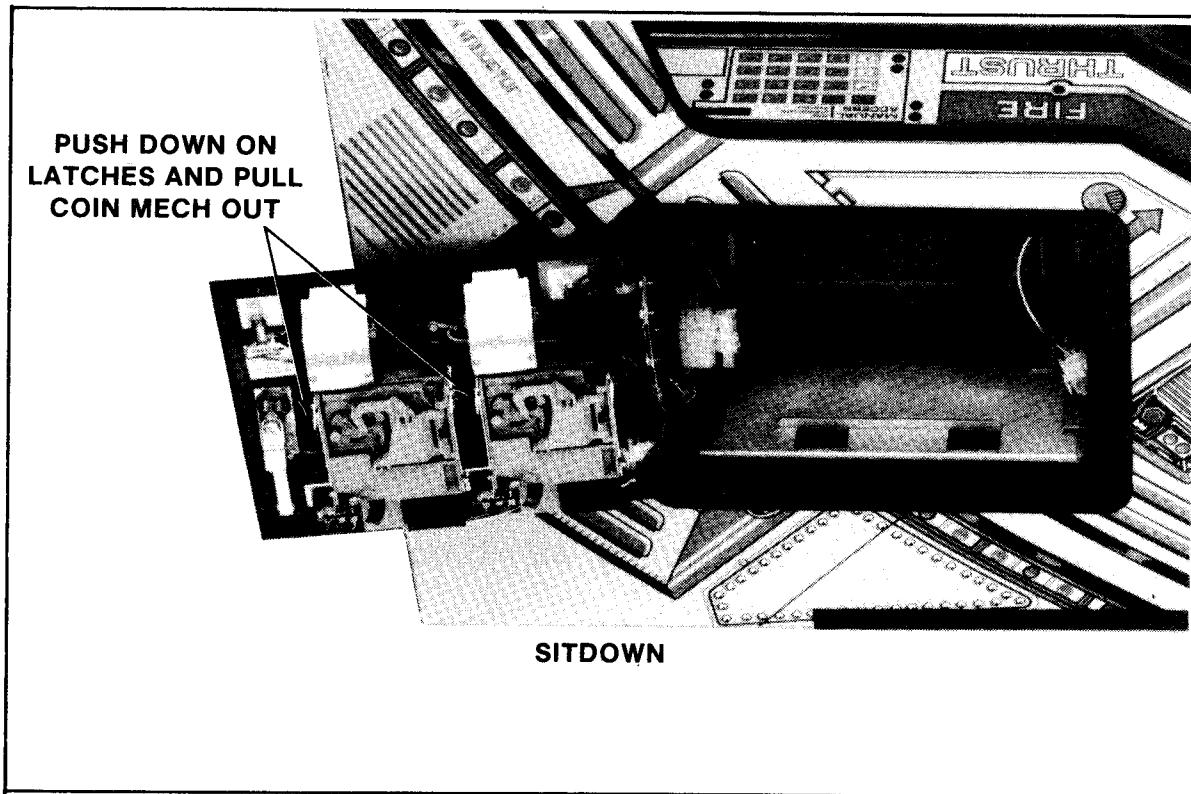

FIGURE 37
- c. Remove the coin acceptor mechanism(s) as shown in Figure 37.